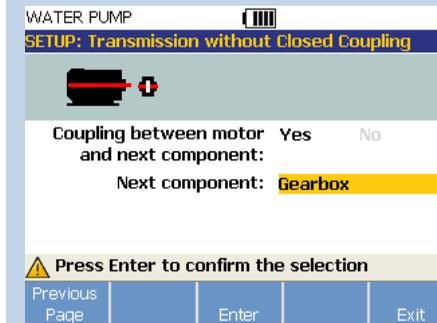

Figure 2
- Use the Dial on the Fluke 810 to highlight your choice. (Figure 2)